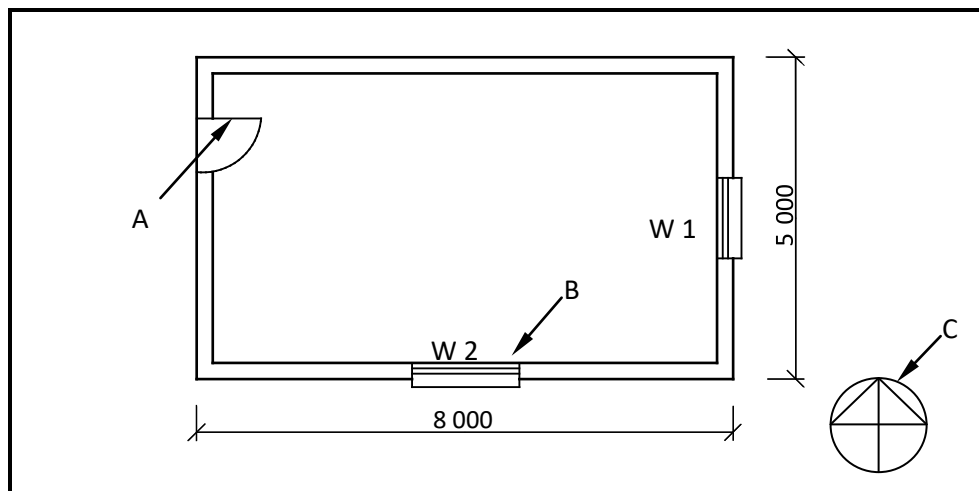

FIGURE 1.5
1.5 **FIGURE 1.5** below shows the floor plan of a building. Study the drawing and answer the questions that follow.